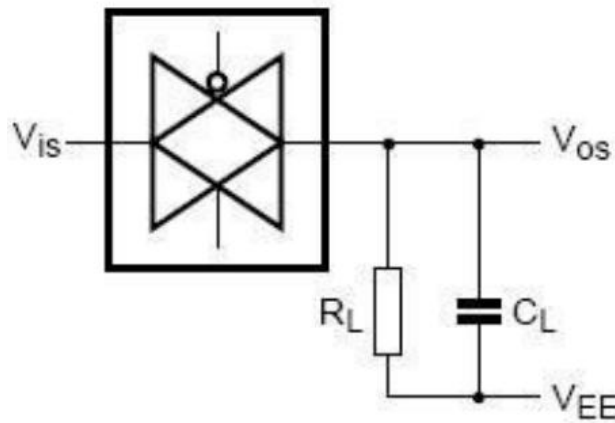

Figure 6. Square wave distortion degree of cut-off frequency and conduction frequency test pattern
- (3)  $R_L=1k\Omega$ ;  $C_L=5pF$ , channel off,  $20\log V_{os}/V_{is}=-50dB$ , see Figure 6.
- (4)  $R_L=1k\Omega$ ;  $C_L=5pF$ , channel on,  $20\log V_{os}/V_{is}=-3dB$ , see Figure 6.